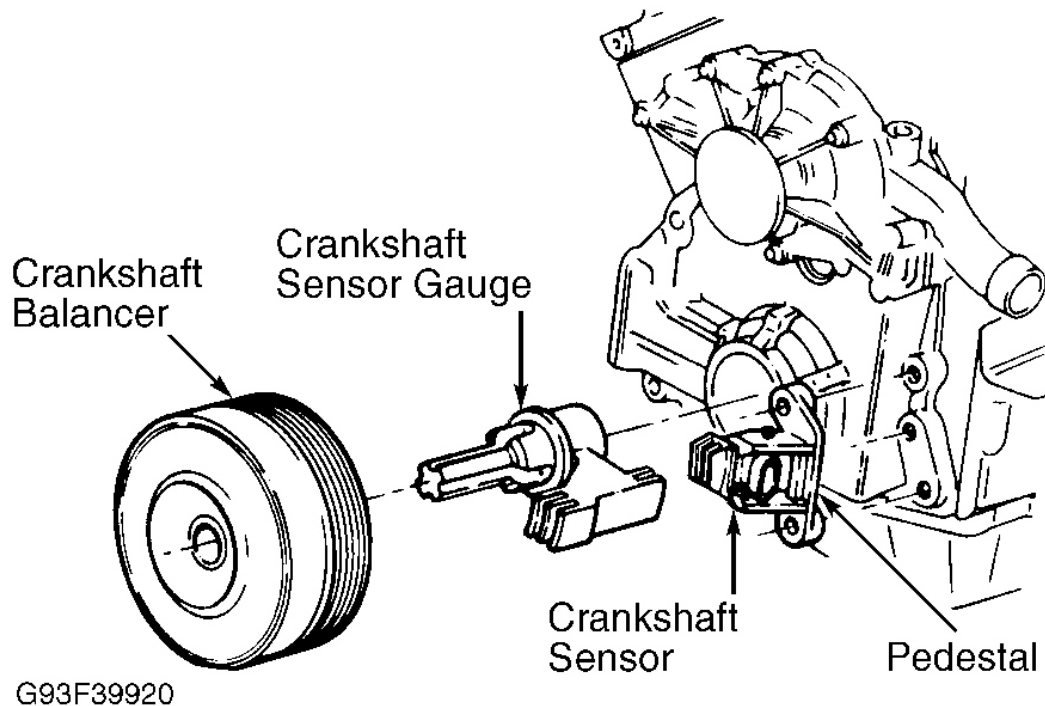

Fig. 12: Checking Crankshaft Balancer Clearance
2. Install Crankshaft Sensor Gauge (J 37089) onto rear of crankshaft balancer. See **Fig. 12**. If gauge contacts balancer at any point, replace crankshaft balancer. To complete installation, reverse removal procedure. Coat sealing surface of crankshaft balancer and seal with oil.